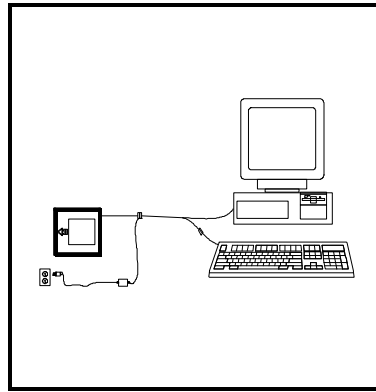

Figure 1
3. Disconnect the keyboard from the PC. Plug the communication cable to the PC and the keyboard. Connect the 25-pin D-type connector on the scanner's head cable to the communication cable. (Refer to Figure 1)